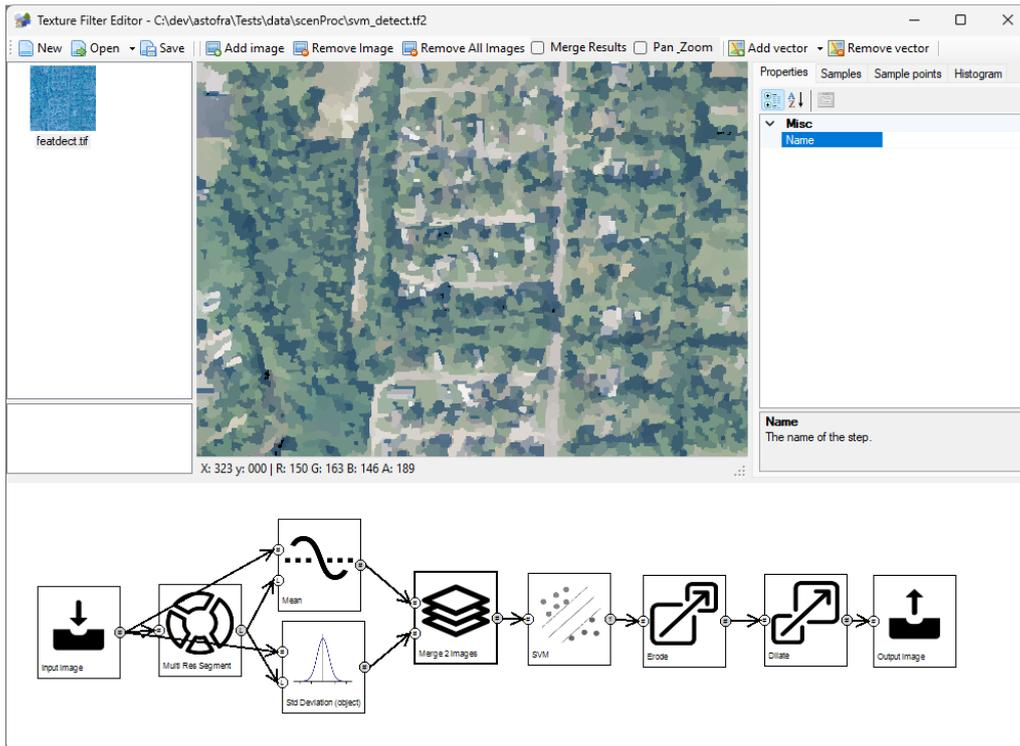

Figure 6.53: Merging the mean and standard deviation images into one image
- The mean and standard deviation images are merged into one image, see Figure 6.53. Each of the input images has 4 bands (R, G, B and NIR), that means that the merged image has 8 bands in total.